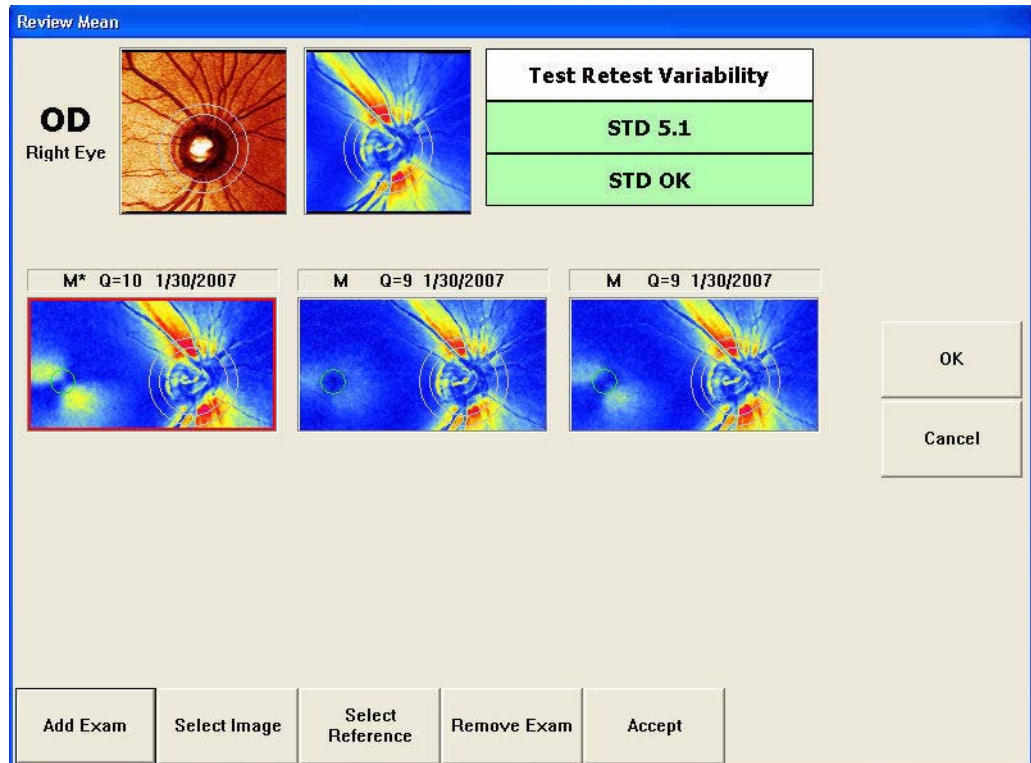

Figure 4-33 Review Mean Screen
3. Acquire the second and third RNFL scans. After you accept the images acquired from the third scan, the REVIEW MEAN screen is displayed (Figure 4-33).